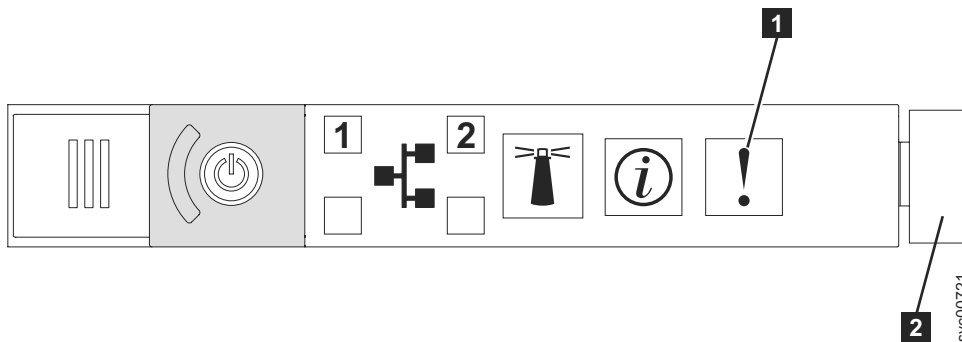

Figure 90. SAN Volume Controller 2145-CG8 or 2145-CF8 operator-information panel
1. **Is the Error LED, shown in Figure 90 on page 247, on the SAN Volume Controller 2145-CG8 operator-information panel on or flashing?**